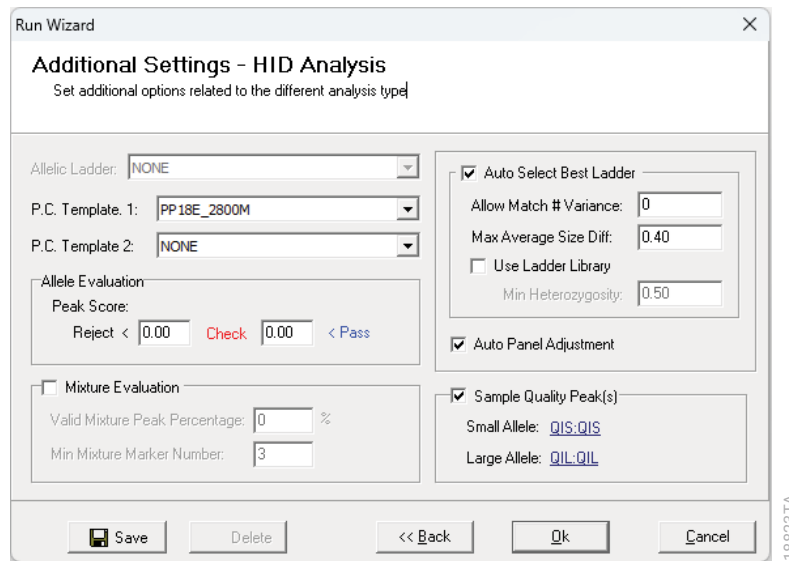

Figure 23. The ‘Additional Settings’ window for an analysis method.
10. The ‘Additional Settings – HID Analysis’ window will appear (Figure 23). Select **18E_2800M** as the P.C. Template 1 and verify that the boxes are checked for “Auto Select Best Ladder”, “Auto Panel Adjustment” and “Sample Quality Peak(s)”. If the PowerPlex 18E positive control template is not available, consult the *GeneMarker®HID Software for Spectrum CE Systems User Manual #TM555* and use the Positive Control Template Editor to set up a new template. Ensure that “QIS:QIS” is selected for the Small Allele and “QIL:QIL” for the Large Allele in the Sample Quality Peak(s) Section. The values displayed in the Allele Evaluation dialogue box are defaults and will affect the quality values displayed in the plot settings. For more information on quality values, use of a second positive control and mixture evaluation, refer to the *GeneMarker®HID Software for Spectrum CE Systems User Manual #TM555*. Select **OK** to analyze the raw data.